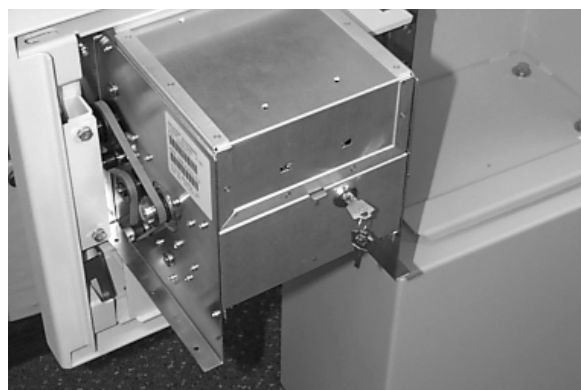

Figure 4-1. Unlock the cassette.
2. For security reasons the cassette is locked to the chassis of the dispenser mechanism. To unlock it, use the provided access key to disengage the locking mechanism. (See Figure 4-1.)